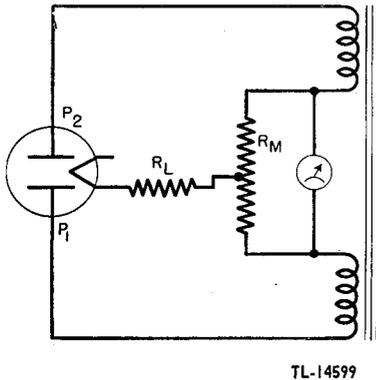

Figure 7. Tube Tester I-177, rectifier diagram illustrating theory.
*a.* Examine first the simple full-wave rectifier circuit shown in figure 7. The two power transformer secondary windings have their inner ends connected to a direct-current milliammeter. Across the milliammeter is a center-tapped resistor  $R_M$ . The load is shown as a resistance  $R_L$ , connected between the center tap and the rectifier filament as in any full-wave rectifier circuit. When rectifier plate  $P_2$  is positive, electron flow is through the upper half of  $R_M$ , and the meter tends to deflect in one direction. When  $P_1$  is positive, electron flow is through the lower half of  $R_M$ , and the meter tends to deflect in the other direction. With the load resistance fixed and equal forces acting on the meter in both cases, the meter stays at zero because it cannot follow variations at the power line frequency.